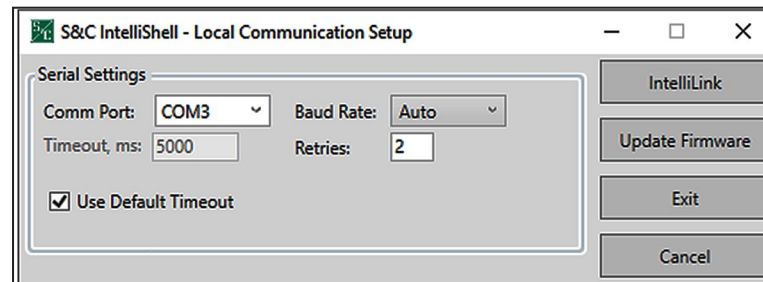

Figure 6. The Communications Parameters entries within the S&C Electric IntelliShell—Local Communication Setup dialog box.
- (d) Click on the **IntelliLink** button. See the “Firmware Update” section on page 18 when a firmware update is required. See Figure 6.